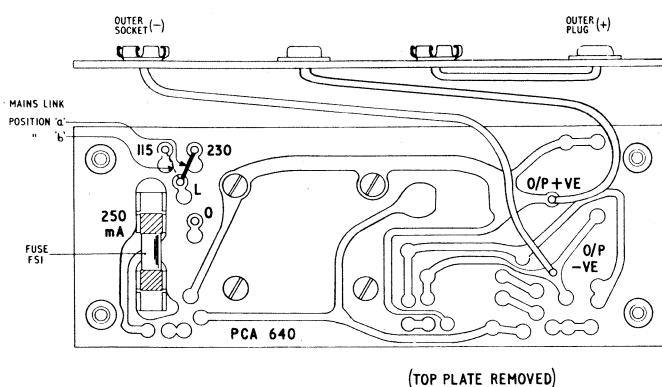
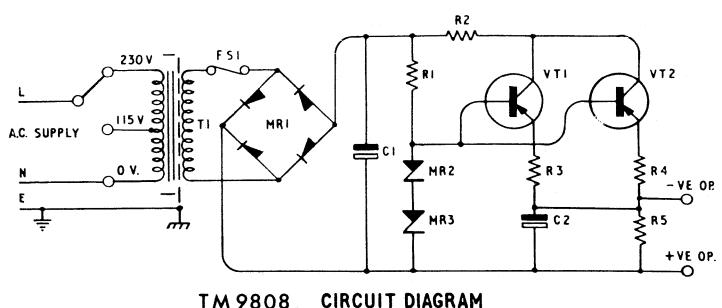

FIG.2
FIG.3
- (ii) The 'mains link' (Refer. Fig. 2) should be soldered in position 'b' for 100/125 volts operation (position 'a' for 200/250 volts operation).
Fuse: A 250mA fuse (FS1 in Fig. 3) is provided below the top plate (Refer. Fig. 2).
Refer to Fig. 2.